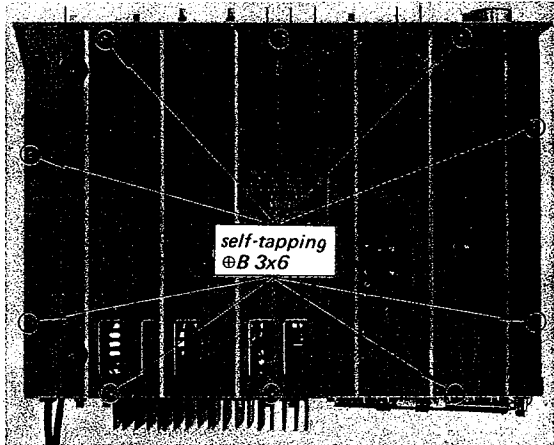

Fig. 2-2. Bottom plate removal
2. Remove the ten self-tapping screws (⊕B 3x6) at the bottom of the receiver as shown in Fig. 2-2. This frees the bottom plate.